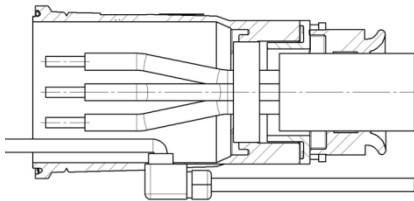

Fig. 58: Angled cable gland
4. Fit the pilot cable with an angled cable gland as specified in Fig. 58 when using 160A – 250A C-Line high-current connectors.